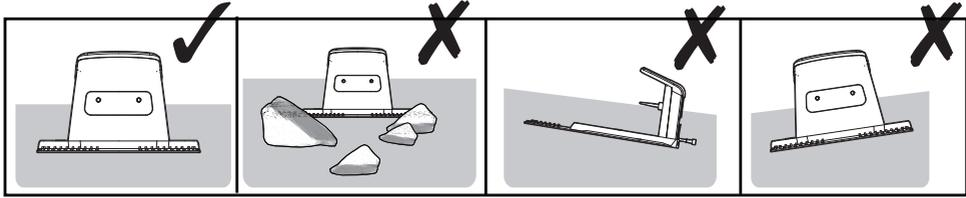

Fig. 13
NOTE: Place the charging station (12) only on a stable and level ground. Ensure that the area around the charging station (12) is clear of obstacles and provides enough space for the machine to dock and recharge without obstruction (Fig. 13).